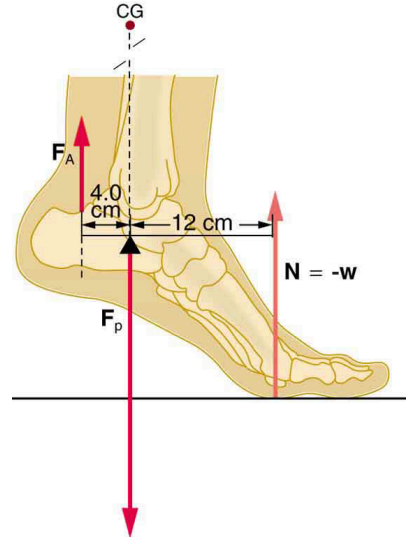

Figure 9.41 The muscles in the back of the leg pull the Achilles tendon when one stands on one's toes. A simplified lever system is shown.
33. A 75-kg man stands on his toes by exerting an upward force through the Achilles tendon, as in Figure 9.41. (a) What is the force in the Achilles tendon if he stands on one foot? (b) Calculate the force at the pivot of the simplified lever system shown—that force is representative of forces in the ankle joint.